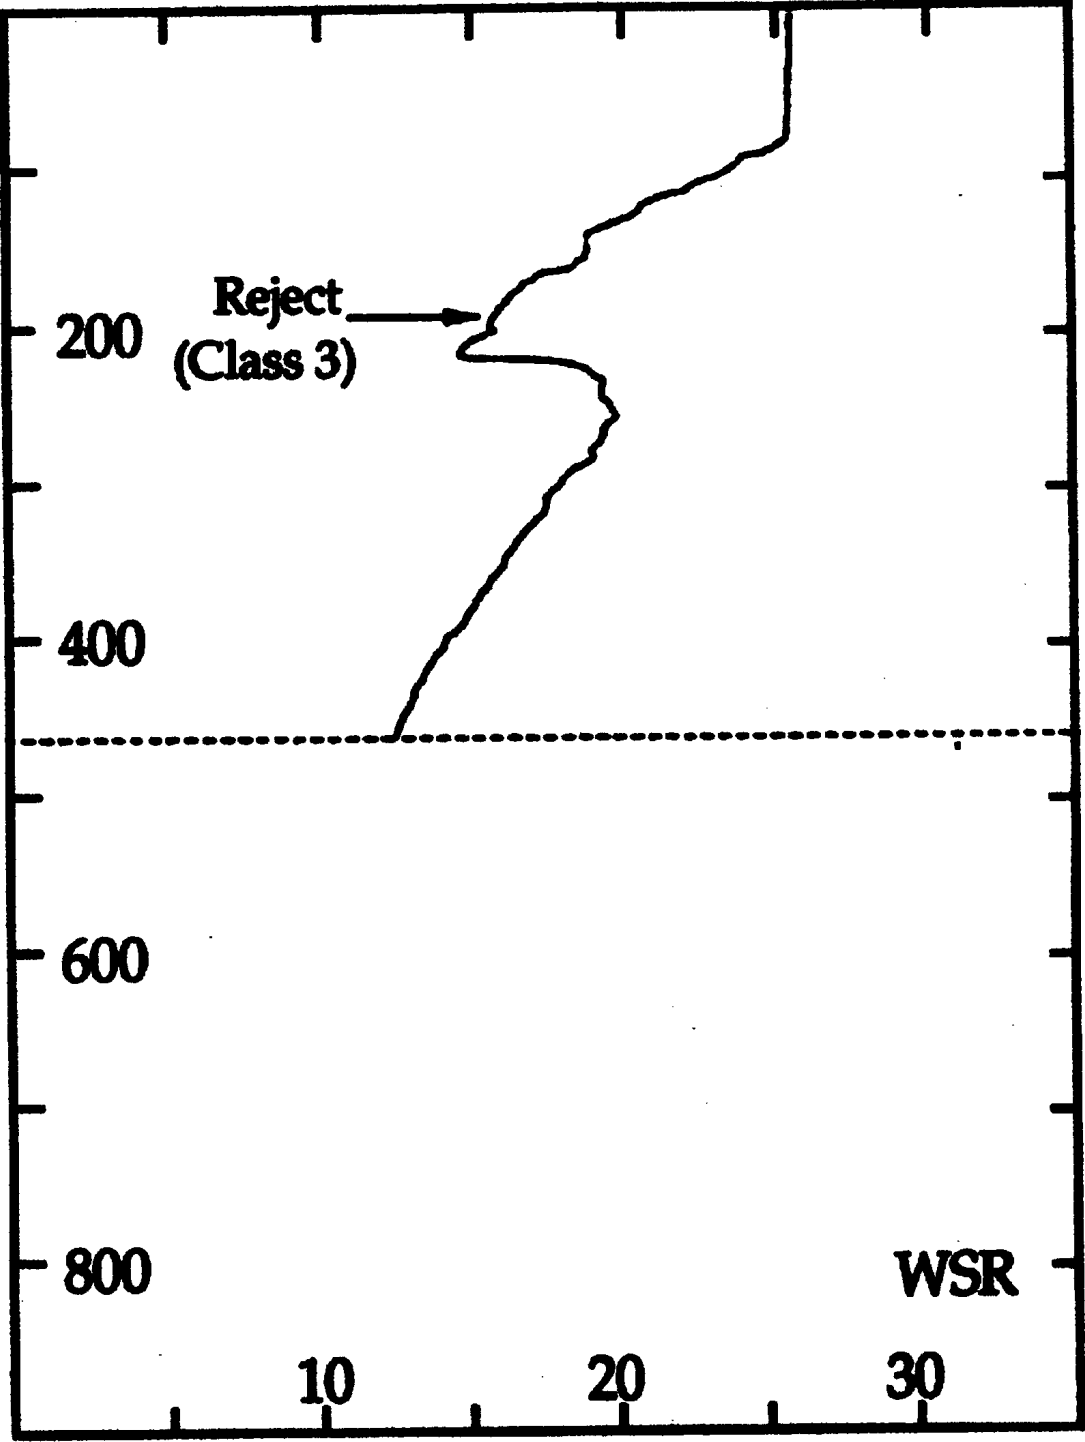

Figure 8l. Wire Stretch Reject (WSR)
- Fig. 8l:** The WSR flag is used if an unrealistic bulge to the high temperature end of the scale is present that does not fully recover.